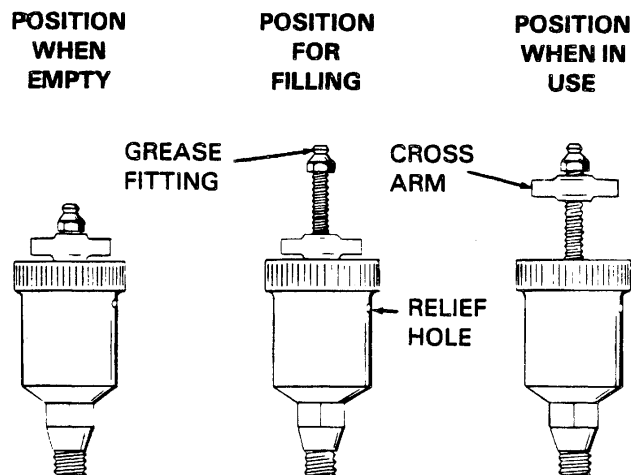

Figure 5. Automatic Lubricating Grease Cup
Fill the grease cup (12) through the grease fitting with No. 2 lithium base grease until grease escapes from the relief hole. Turn the grease cup arm counterclockwise until it is at the top of the stem; this will release the spring to apply grease to the seal (see Figure 5).